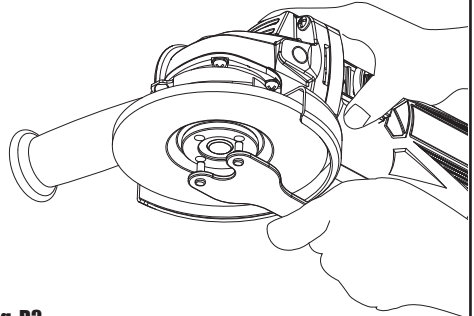

Fig. D3
Press in the spindle lock button (2) and rotate the spindle by hand until it is locked. Keeping the lock button pressed in, tighten the outer flange (11) with the spanner (9) provided. (See Fig. D3)